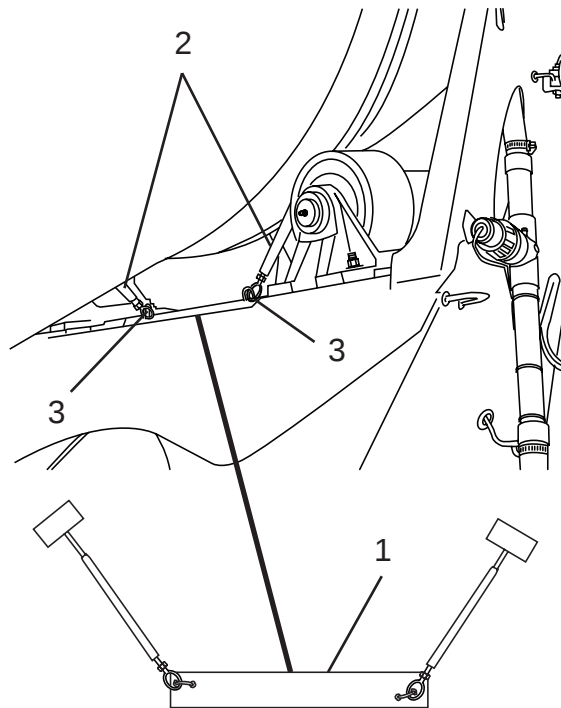

Figure 10
15. Place the dual turnbuckle wedge assembly base (Figure 10, Item 1) on the rear pedestal. Make sure the wedge assembly base has a flat, clean surface. Extend the turnbuckles (Figure 10, Item 2) so the wedges are firmly in place between the drum roller track and rollers. Evenly snug up the turnbuckles one turn or more as needed to prevent possible drum rotation.
16. Tighten the turnbuckle jam nuts (Figure 10, Item 3) to secure the wedges in place.